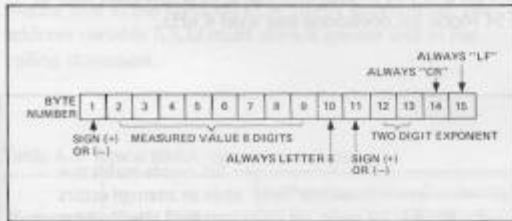

Figure 6-3. 8901A output message format.
The Modulation Analyzer outputs readings in a 15 byte format (Figure 6-3). The output message is in exponential form. It begins with a + or - sign and ends with a carriage return (CR) and line feed (LF). Data is always output in fundamental units: Hz, watts, radians, % or dB. Error messages indicated on the display can also be read remotely. The error output format is +900000NNE+02CRLF where NN is the error number. When an error occurs, the instrument error (NN) is obtained by addressing the 8901A to talk, subtracting 9×10^9 from the reading returned, and dividing by 100. The operating information pull-out card lists all the error codes.